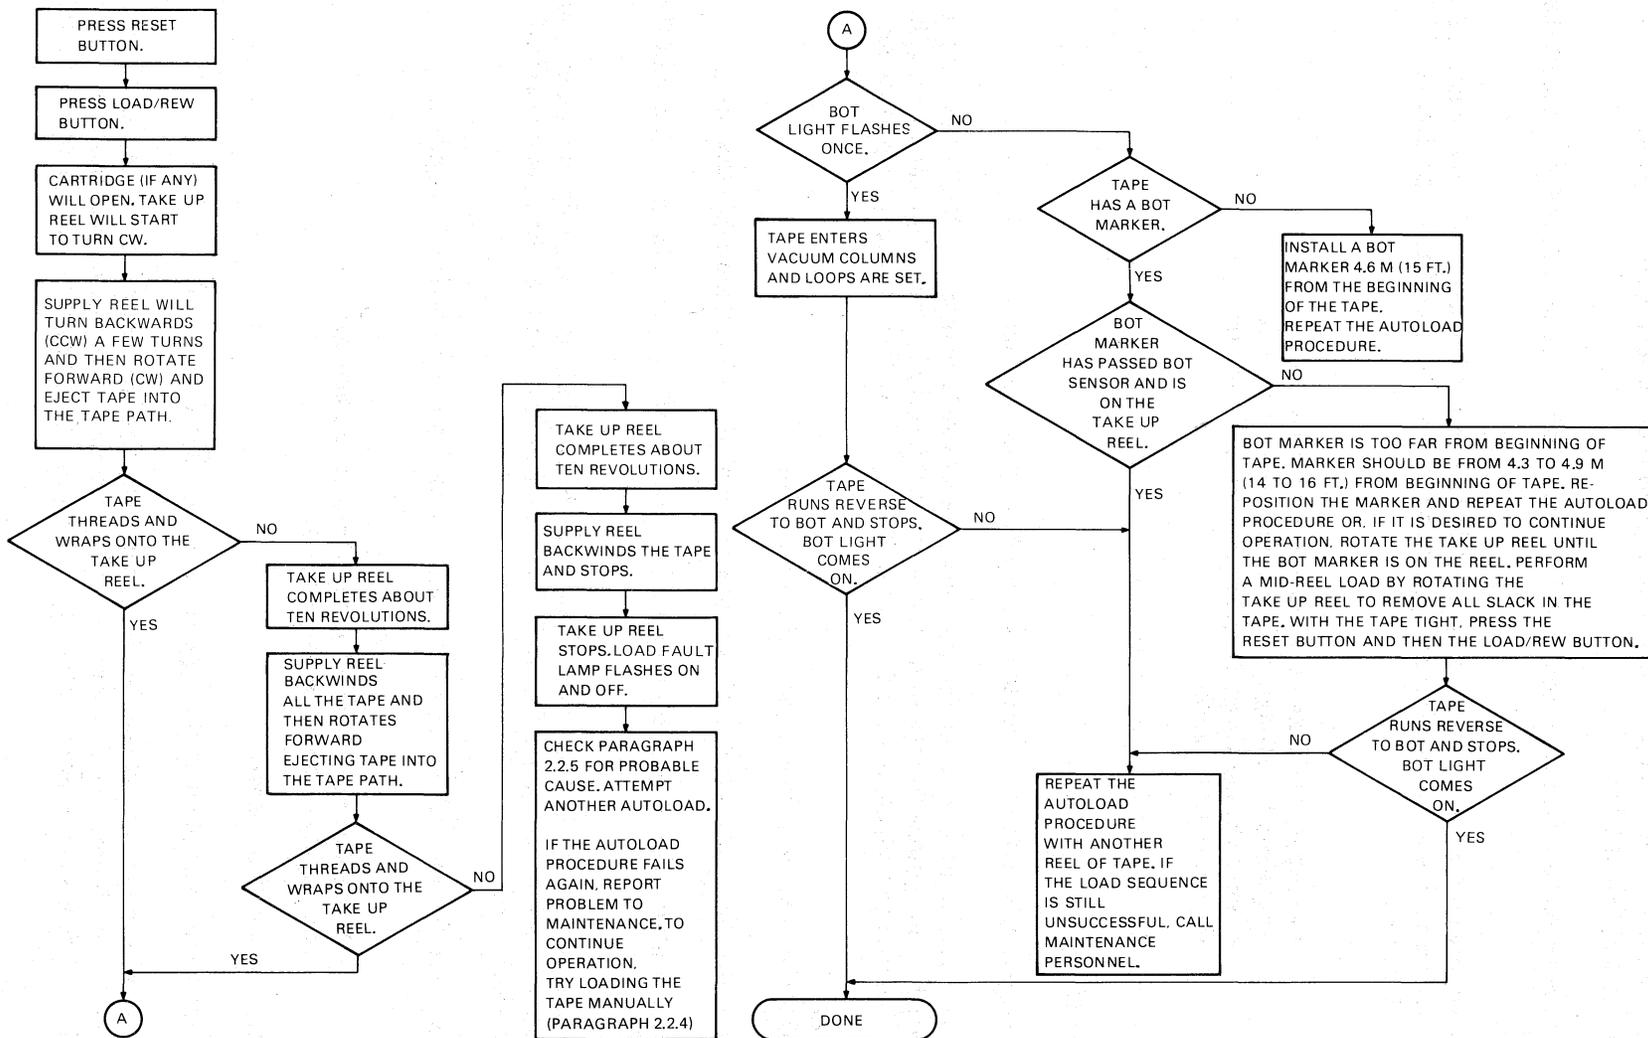
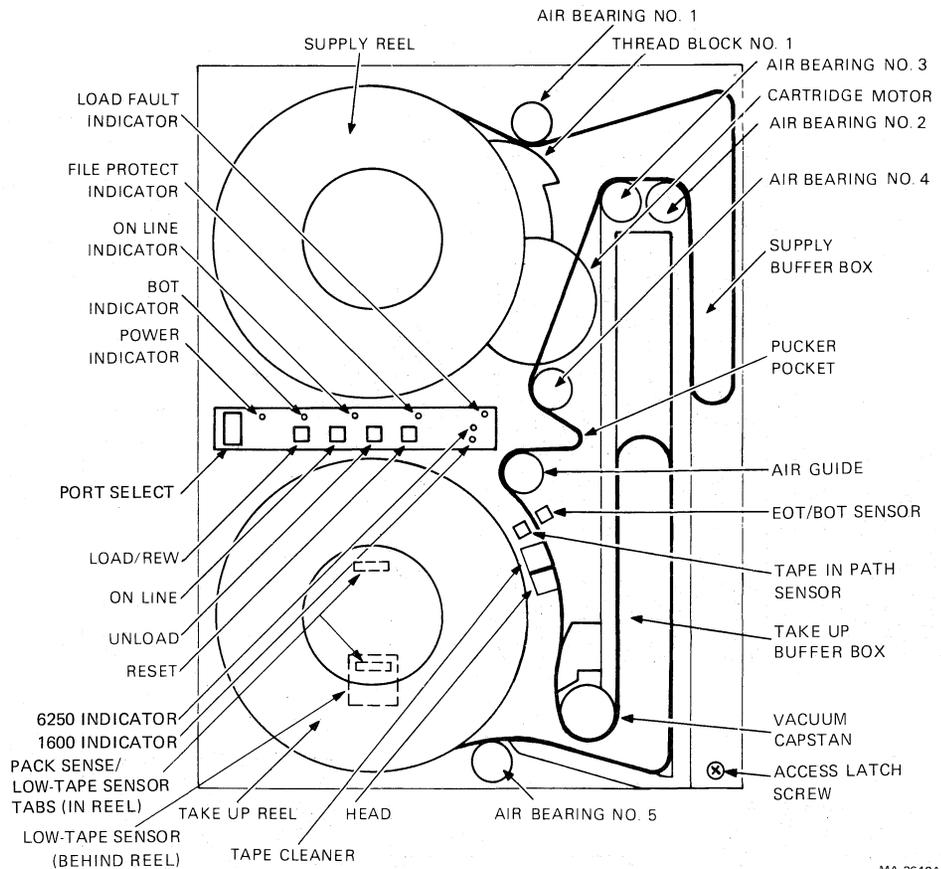
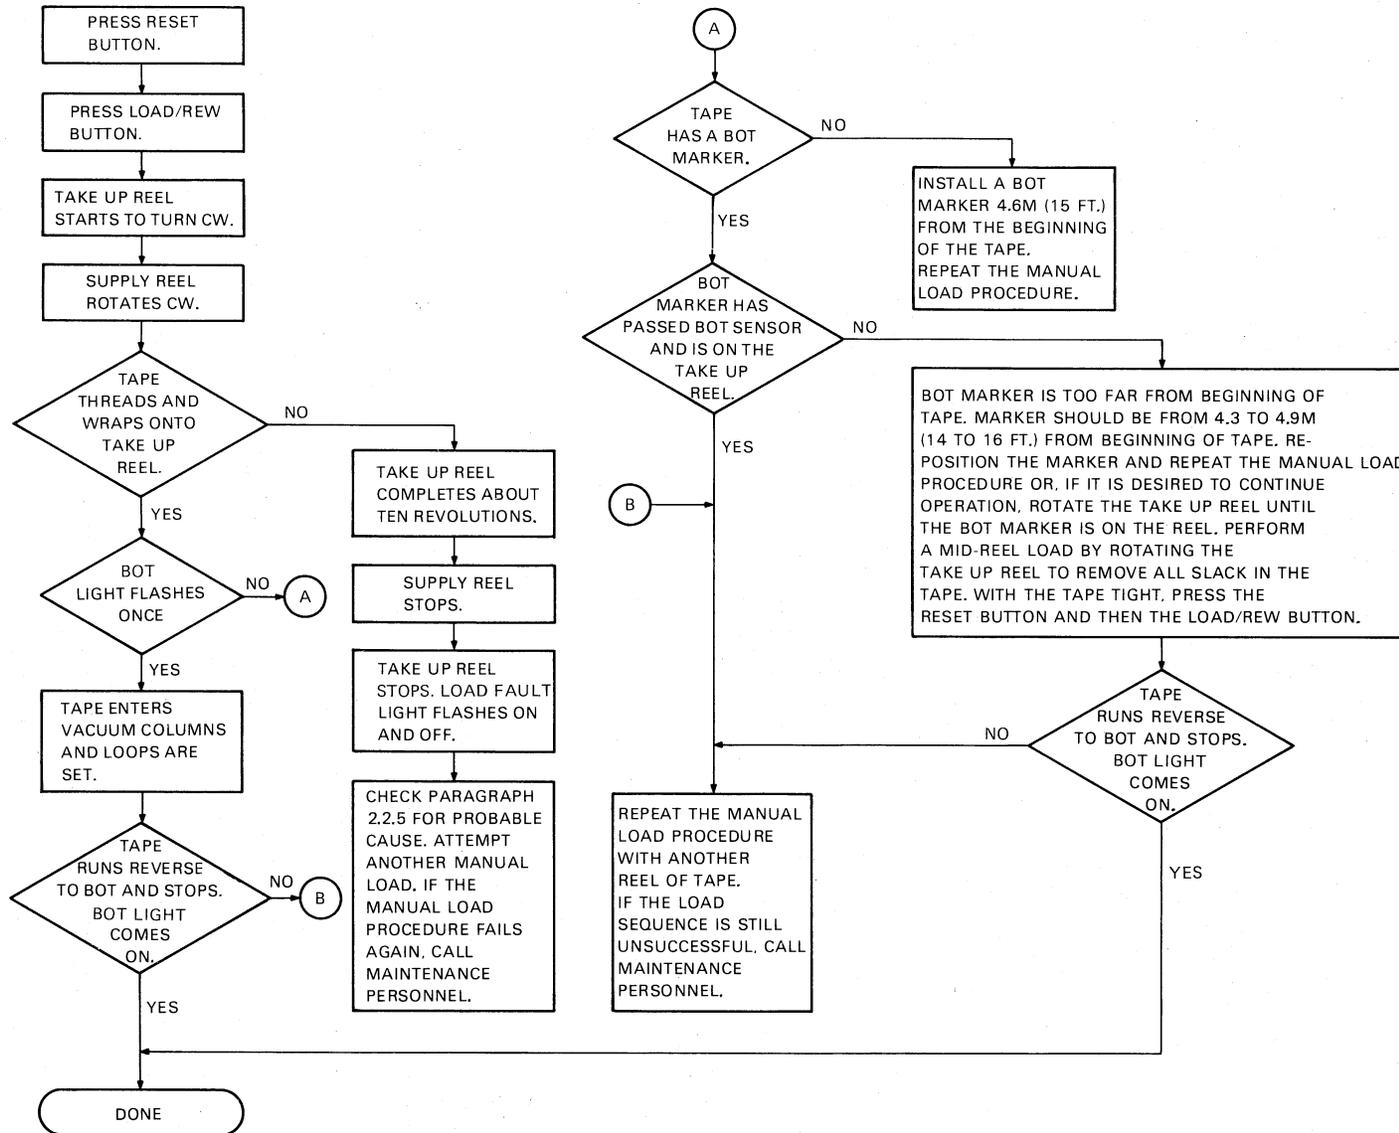

Figure 2-4 Autoload Sequence with Operator Troubleshooting
Figure 2-5 Tape Path and Controls
Figure 2-6 Manual Load Sequence with Operator Troubleshooting
10. Follow the instructions and check for the events specified in Figure 2-4. If the tape fails to load properly, the figure contains some operator troubleshooting hints that can be tried before maintenance personnel are called. Refer to Figure 2-5 to identify tape path components.
4. Manually place the tape leader between thread block 1 and air bearing 1 (Figure 2-5).
7. Follow the instructions and check for the events specified in Figure 2-6. If the tape fails to load properly, the figure contains some operator troubleshooting hints that can be tried before maintenance personnel are called. Refer to Figure 2-5 to identify tape path components.